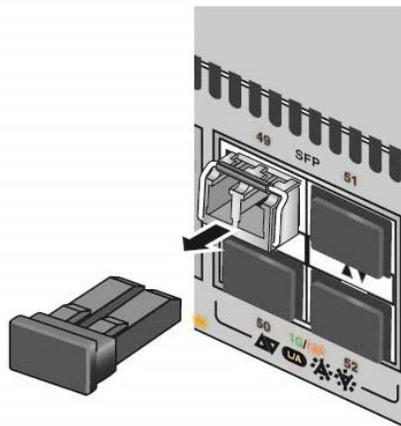

Figure 34. Removing the Dust Cover from an SFP Transceiver
6. Remove the dust cover from the transceiver, as shown in Figure 34 on page 76.